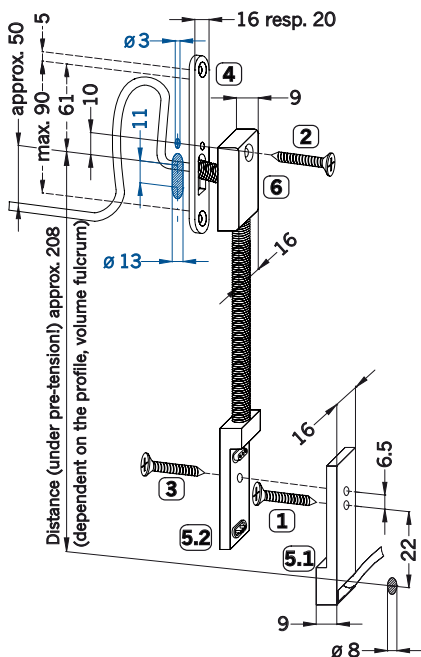

Figure 3.2-1: Routing dimensions for cable transition KÜ-T-STV (Measures in mm)
- If cover plate **4** is used, mill slotted oblong hole 90 mm (see Figure 3.2-1, deep with wood doors approx. 50 mm)